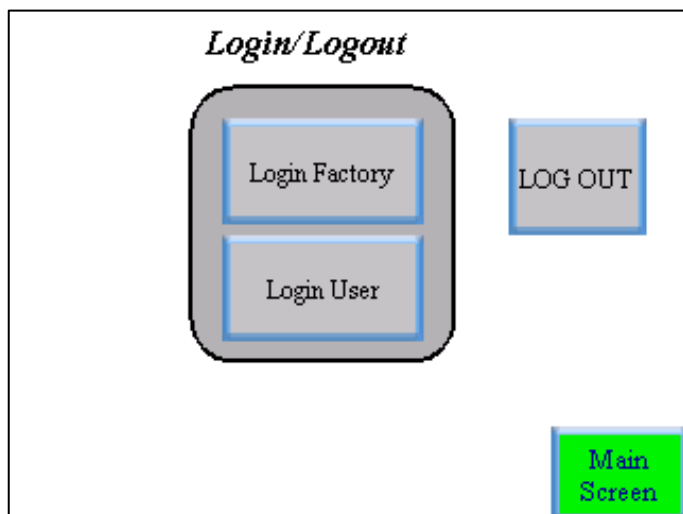

Figure 4 Login/Logout button
- 1 Press the **Login/Logout** button (Figure 4).